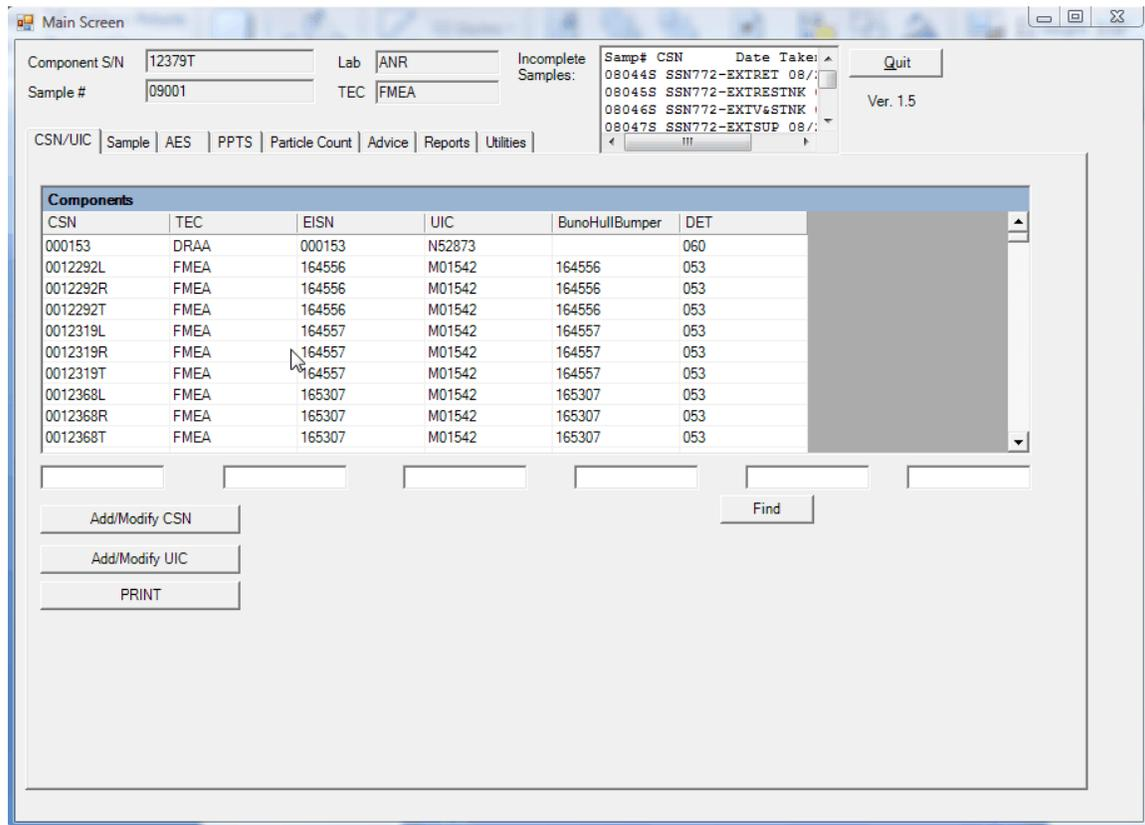

Figure 20. CSN/UIC Tab
- (1) From the main sample screen press the “CSN/UIC” tab and the following screen will appear (Figure 20). Adding a component is done when you have searched and can't find the component serial number and have asked for a transfer disk with no response.